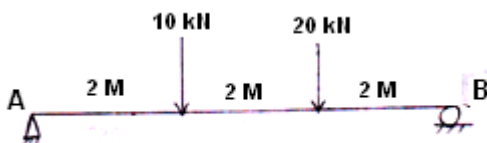

Fig. 7
Q.8	(a) State Law of Polygon (b) Find reactions at support A and B for the simply supported beam shown in fig. 7